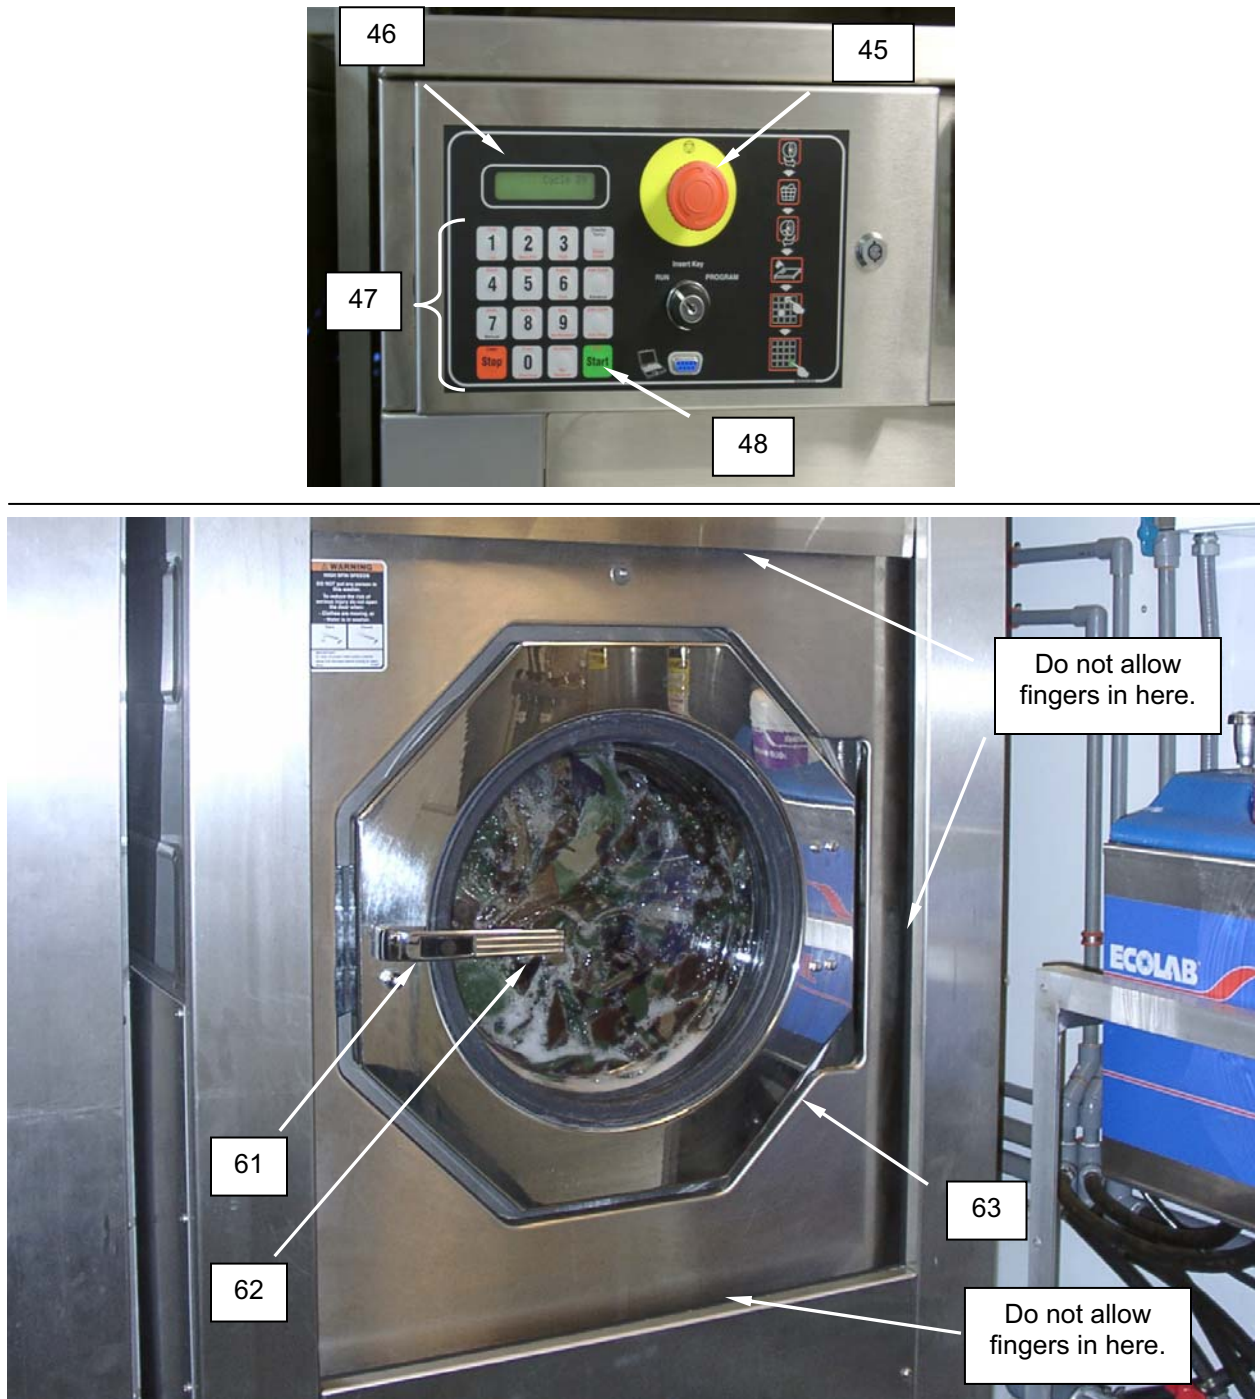

Figure 27. Operate the Washer.
1. Ensure that the emergency stop switch (**Figure 27, Item 45**) on the washer control panel has been turned out and is in the operational position.
2. Press the release button (**Figure 27, Item 61**) on the latch (**Figure 27, Item 62**) and open the washer door (**Figure 27, Item 63**). The washer may be filled with up to 50 pounds of laundry – for example, this would come to 18 complete sets of BDU's (blouse and trousers).
3. Close the washer door (**Figure 27, Item 63**). Ensure the door has latched securely.
4. The front panel display (**Figure 27, Item 46**) on the washer should be lit. This display will be on at all times that power is ON indicating the machine is ready for loading and unloading.
6. Enter the desired cycle number by pressing (do not punch) with your finger the numbers on the keyboard (**Figure 27, Item 47**) and note that this number is displayed. When keys are pressed on the keyboard, a beep will be heard. If an error is made, simply press the numbers again. As numbers are entered, they move from right to left on the display.
7. To start the cycle that has been selected, press the "START" key (**Figure 27, Item 48**). As the cycle proceeds, the display (**Figure 27, Item 46**) will show the function being executed, step number and the cycle number selected.
8. The front panel display (**Figure 27, Item 46**) will indicate when the cycle is complete. At that time, the washer may be unloaded by pressing the release button (**Figure 27, Item 61**) on the latch (**Figure 27, Item 62**) and using the latch to open the washer door (**Figure 27, Item 63**). The washer door will not open while the washer is in an operating cycle.